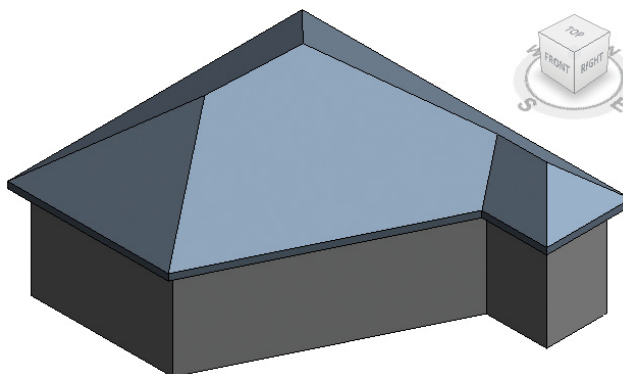

FIGURE 3.22 Attaching the walls to the roof
5. Finish the sketch. Initially, the edges of the wall extend beyond the overhang of the roof. Select all the exterior walls (use the Tab key), and then select the Attach Top/Base option on the Modify | Wall tab. The result resembles Figure 3.22.